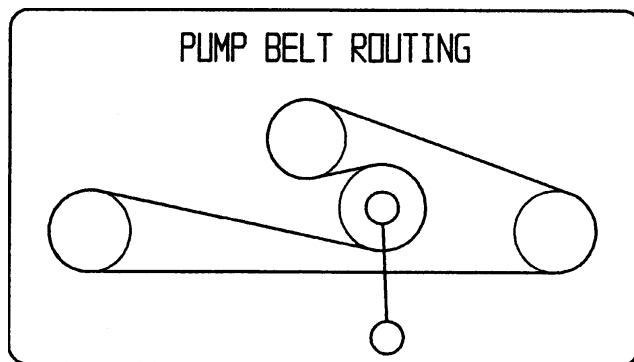

Figure 60
1. Pull spring loaded idler down and remove traction belt from the engine and hydro pump pulleys (Fig. 60). Remove belt between pulleys.
2. Install new belt around engine and hydro pump pulleys (Fig. 60).
3. Pull spring loaded idler down and align below traction belt. Release pressure on spring loaded idler (Fig. 60).